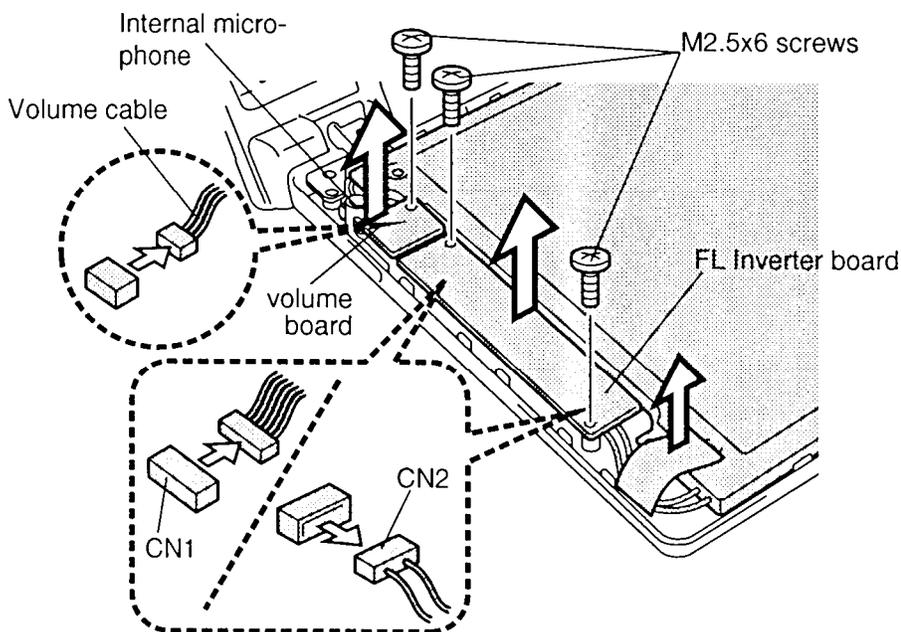

Figure 4-23 Removing the FL inverter and volume board
To remove the T2150CDS FL inverter board, follow the steps below and refer to figure 4-23.
3. Remove **two M2.5x6 screws** securing the **FL inverter board** (figure 4-23).
4. Carefully rotate the **FL inverter board** from left to right and disconnect the **FL cables** and **FL inverter cable** from **CN1** and **CN2** on the FL inverter board (figure 4-23).
5. Remove one **M2.5x6 screw** securing the **volume board** (figure 4-23).
6. Disconnect the **volume cable** from the connector on the **volume board** (Figure 4-23).
To install the T2150CDS's FL inverter board, follow the steps below and refer to figure 4-23.
1. Connect the **microphone** and the **volume cable** to the volume board (figure 4-23).
2. Secure the **volume board** with one **M2.5x6 screw** (figure 4-23).
3. Connect the **FL inverter cable** and **FL cable** to **CN1** and **CN2** on the FL inverter board (figure 4-23).
5. Secure the **FL inverter board** with **two M2.5x6 screws** (figure 4-23).